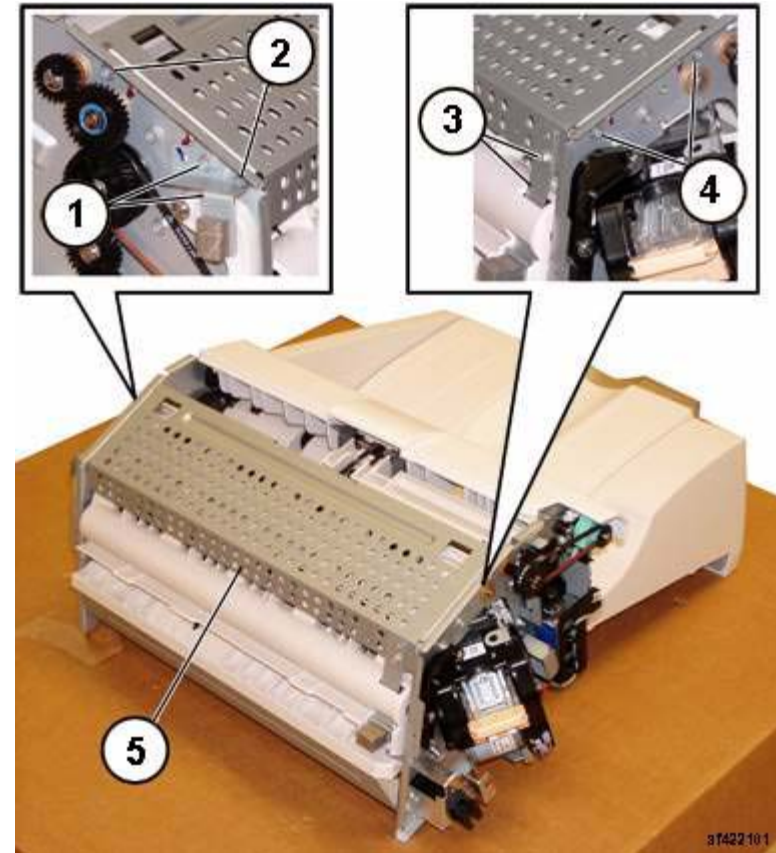

Figure 1 Removing the Upper Frame Section
7. Remove the Upper Frame Section (Figure 1):